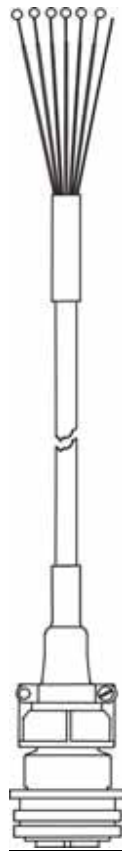

Figure 3-8
**Motor Encoder Wiring:** The encoder wiring uses 3 twisted shielded pairs. This cable is provided from CEC on most applications. See wiring diagrams for connections. It is imperative that this wiring be run separately from the encoder to the drive side of the controller and connected properly. [See Figure 3-8.]